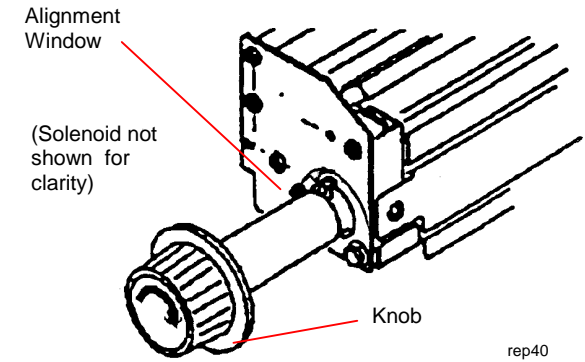

Figure 3. Aligning the Cutter
1. (Figure 3): Turn the knob until the alignment window shows a green color rather than red.